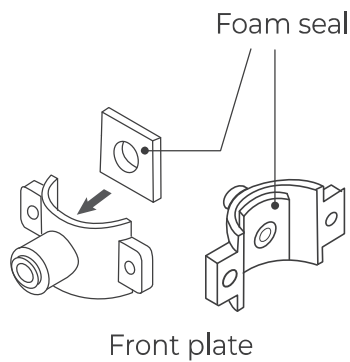

Figure 3
①. Stick the foam seal on the front plate of the drain saddle. Ensure that the hole of the foam seal is aligned with the hole of the front plate (**Figure 3**).
②. Choose a spot on the drainpipe that is convenient for installing the drain saddle. Drill a 1/4" hole in the drainpipe. Be sure not to penetrate the opposite side of the pipe.